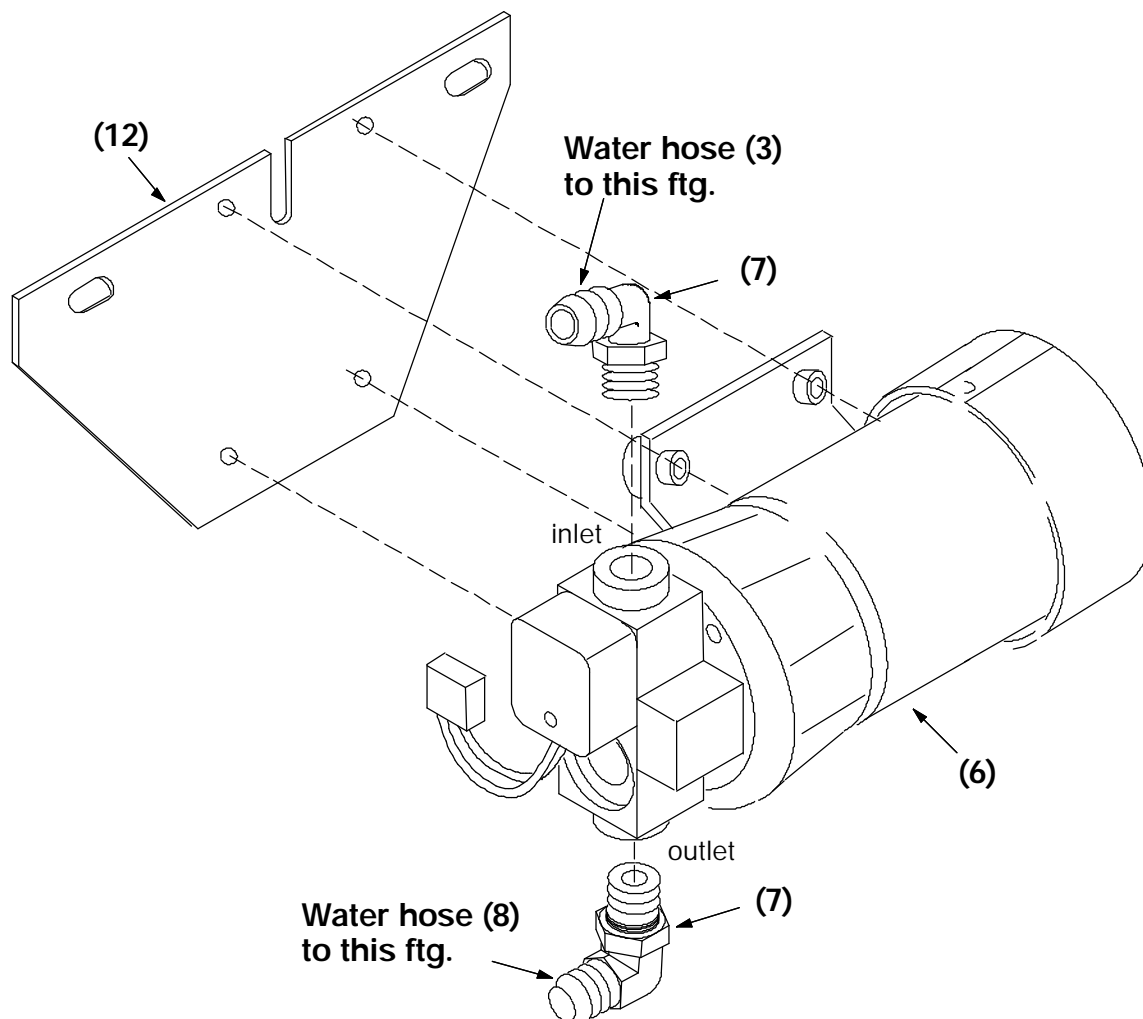

FIG. 2 - Water Pump Mount And Solution Lines
(Refer to FIG. 2)
2. Use the dimensions in FIG. 2 to mark and drill the mount holes for the water shutoff valve (19).